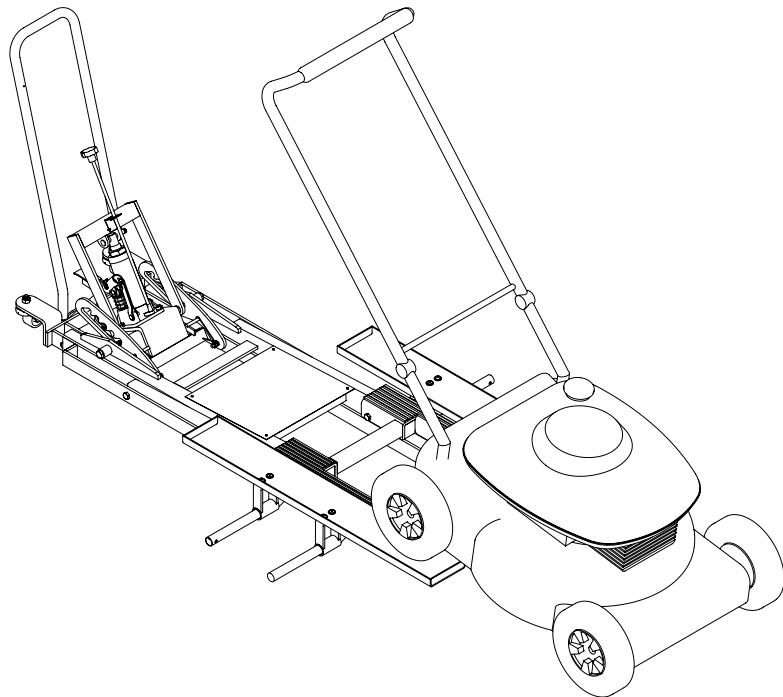

Figure 5 - Loading instructions
1. Lift up the rear or mower and roll onto the Wheel Track (see figure 5).